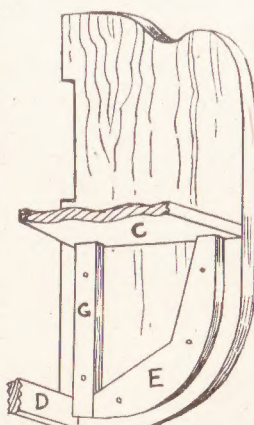

Fig. 4—Interior construction
The back edge of piece (E) is cut away anglewise to allow for room for the electric bulb fitting which is at one end only, of course. Pieces (G) are 4 $\frac{1}{2}$ ins. long and $\frac{1}{2}$ in. wide, and these and the pieces (E) are glued and screwed to the ends as shown in the sectional diagram at Fig. 4.